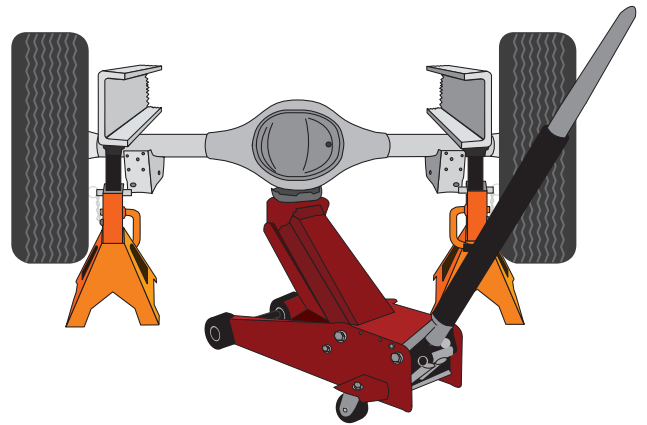

Fig. 2
1. Lift the vehicle and support the frame with safety stands. Drop the axle down low enough to later set the air springs into position between the frame and axle (Fig. 2). Remove the rear wheels.